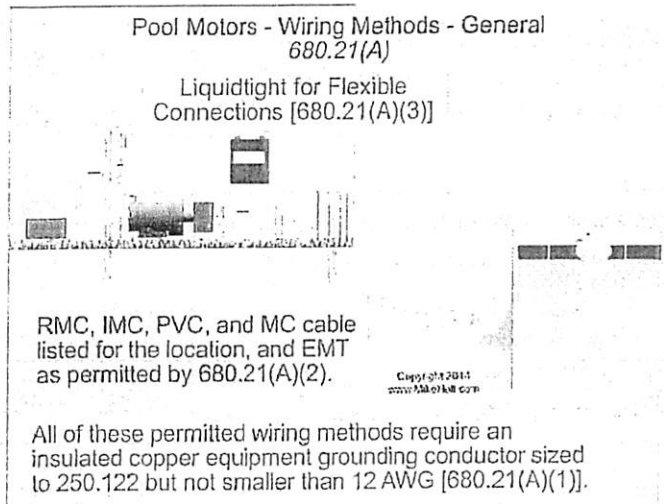

Figure 680-18
(A) **Wiring Methods.** The wiring to a motor must comply with (A)(1) unless modified by (A)(2), (A)(3), (A)(4), or (A)(5). Figure 680-18